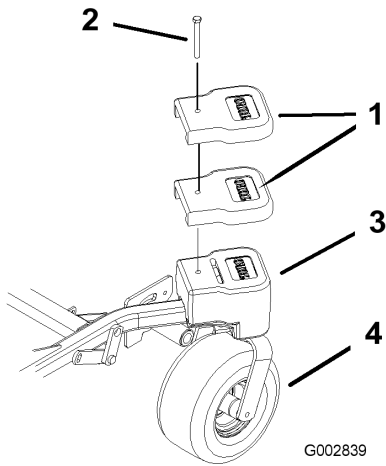

Figure 9
11. Remove bolt and the 2 small top weights from each front caster weight (Figure 9).